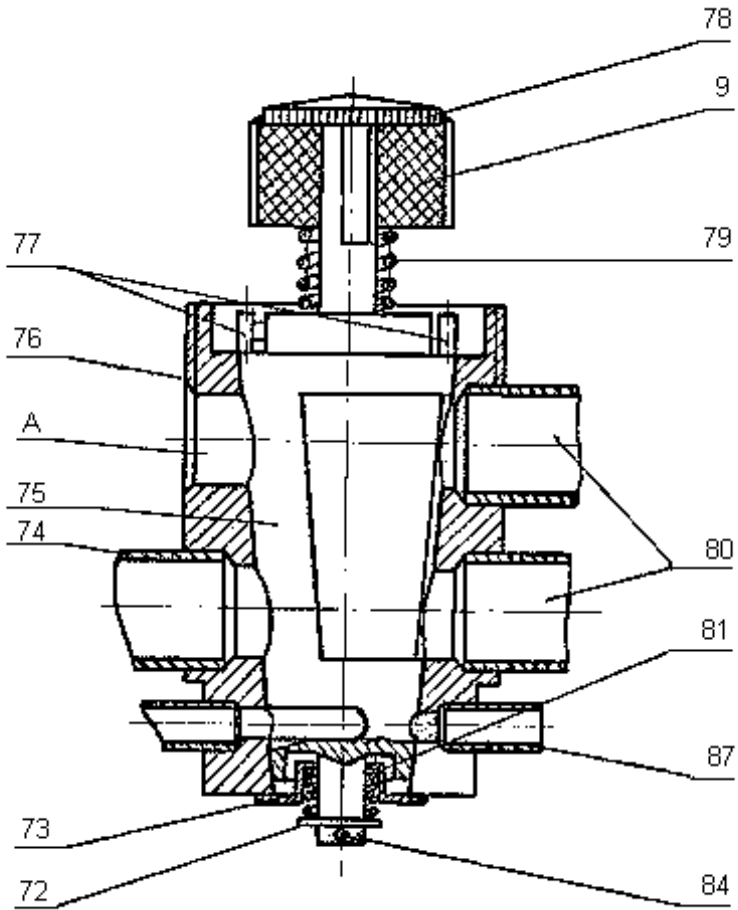

Fig. 9. Distributor:
3.3.5 The distributor (Fig. 9) is an embodiment of two cocks: ejector cock and pressure gauge cock. Distributor comprises body 76 and a plug 75 with two stems. The upper bears the handwheel 9, and the lower spring 73, thus they hold the plug in the body with washers 72 and 81 and cotter pin 84. The handwheel is damped to the stem by a screw 78 and a spring 79, rotation angle of the plug is limited by pins 77. There are ten radial openings forming three tiers. Opening A admits the ambient air in and the other openings have tubes soldered in: five tubes 80 (in the two upper tiers) are of larger diameter and four tubes 87 are of smaller diameter (in the lowest tier).